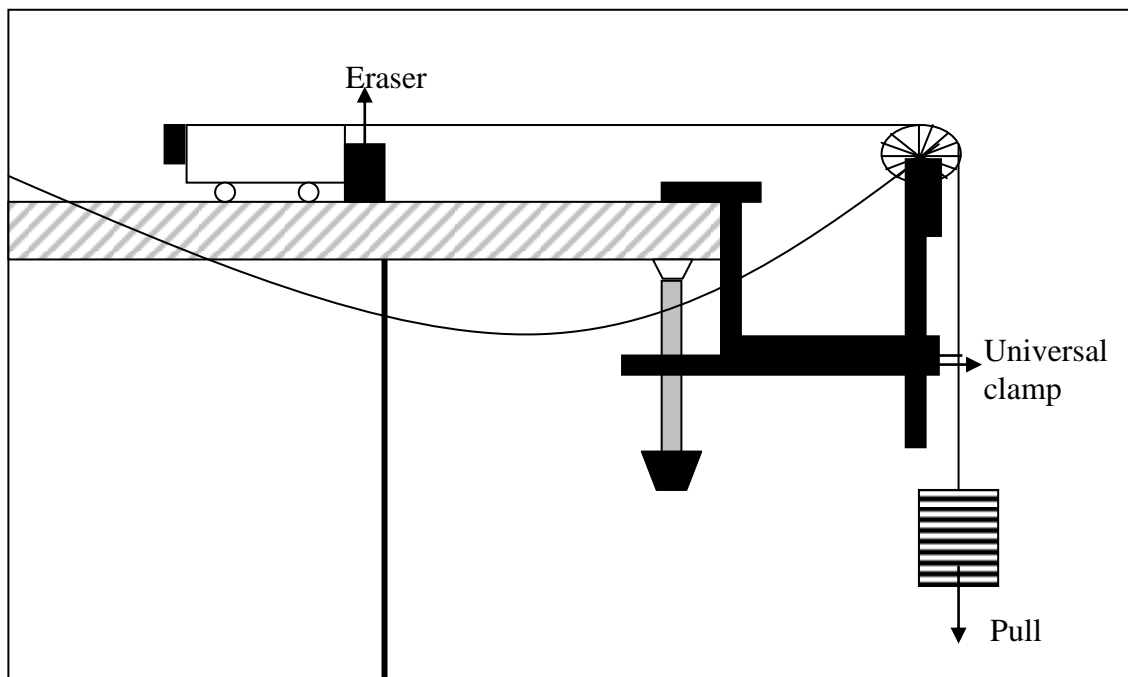

Figure 4.1: Equipment Setup
- 1- Set up the apparatus as show in Fig. 4.1, in an area where you can pull the thread 50-100 cm in a straight line. Connect the Smart Pulley to your Apple II.